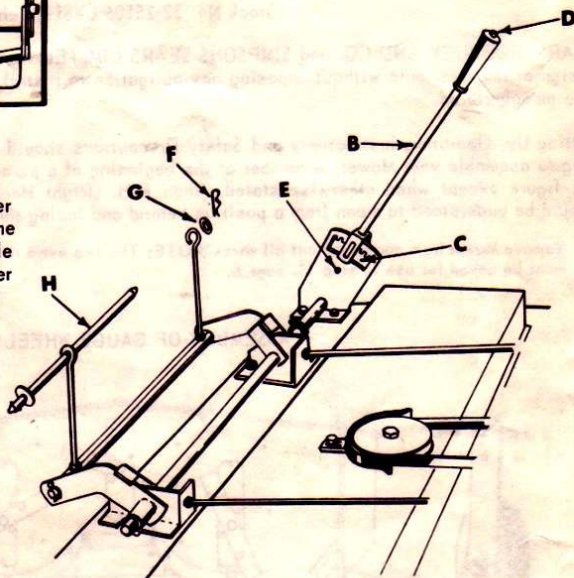

FIG. 4
3. Remove spring retainer (F), and washer (G), from end of frame hanger shaft (H). Remove shaft. Leave one washer on shaft next to roll pin. Refer to Fig. 4.